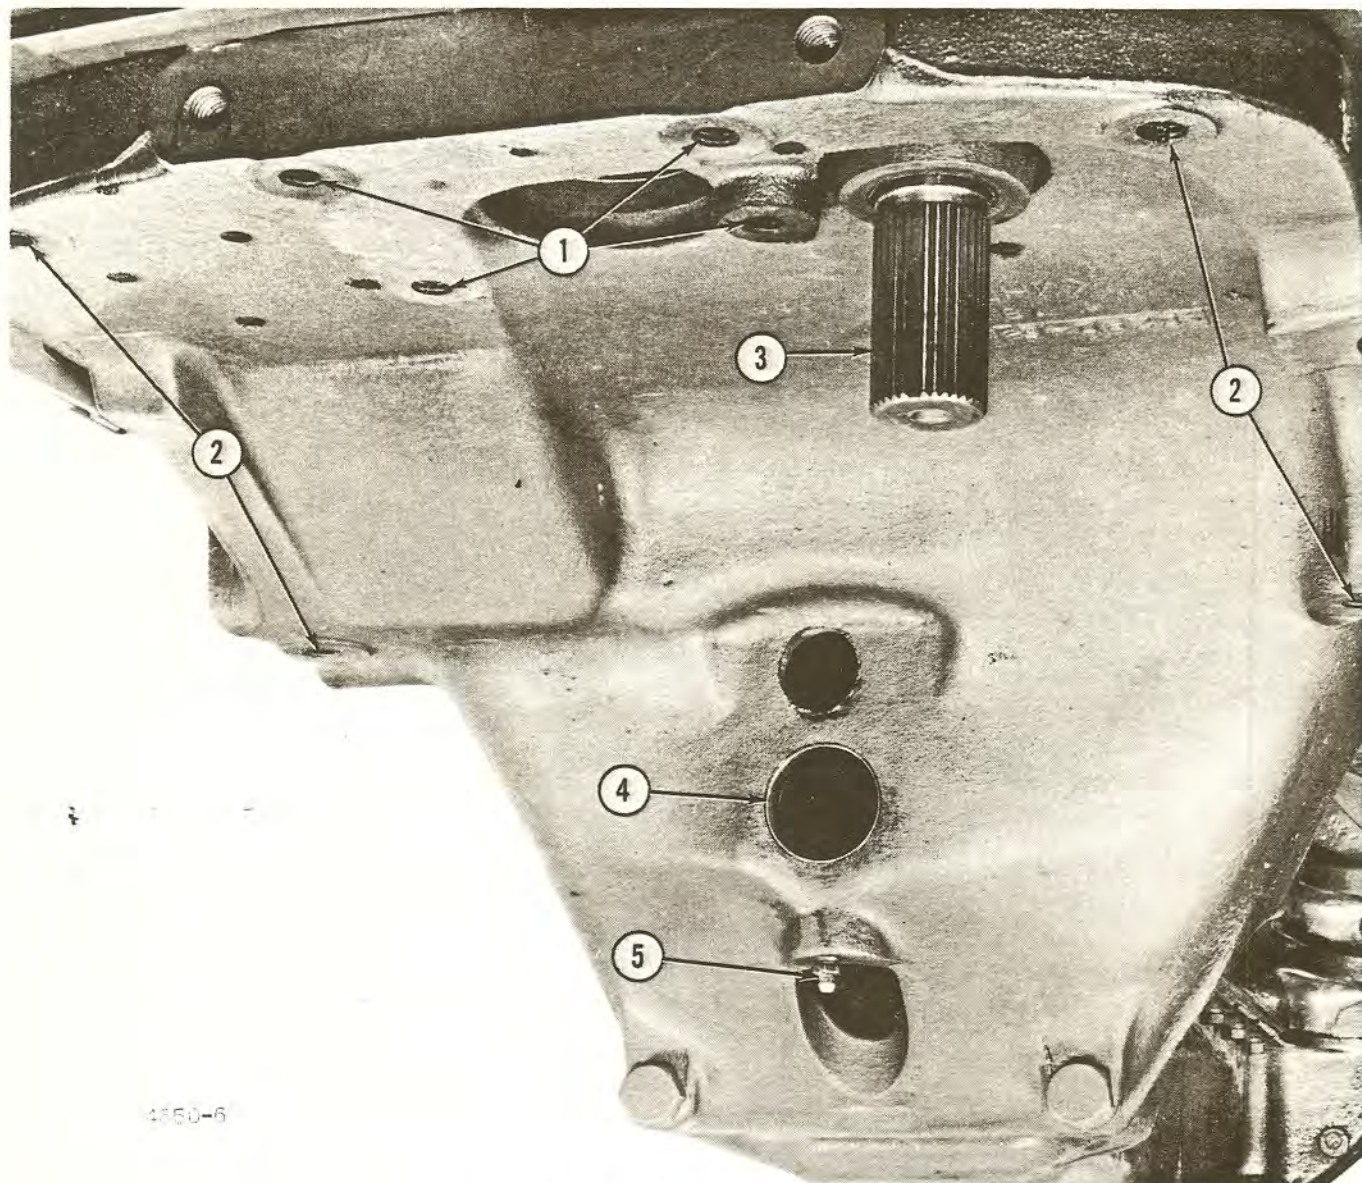

Fig. 5 — Front Axle Support Assembly
5. Grease fitting from the front axle support, No. 5, Fig. 5.
6. Rear pivot pin bushing No. 4, Fig. 5, from the pivot pin hole located in the support casting.
NOTE: Inspect the rear pivot bushing bore located in the front axle support. If a correction has not been made to prevent pivot bushing from working out of place, use a long 7/32" drill, entering through the grease fitting (No. 5, Fig. 5) hole, to drill a 1/64" deep spot in the bore. When installing the bushing, line up the grease holes, and with a long punch inserted through grease hole, stake the bushing into the drill spot.
5. Pivot bushing, No. 4, Fig. 5, into the bore in front axle support as described in note. (See "Inspecting").